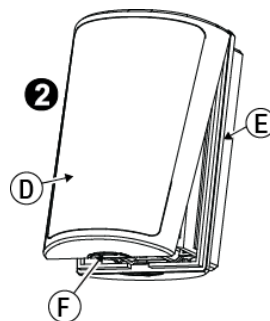

Figure 5 - Opening the Unit
1. Separate the base from the cover (see Figure 5).